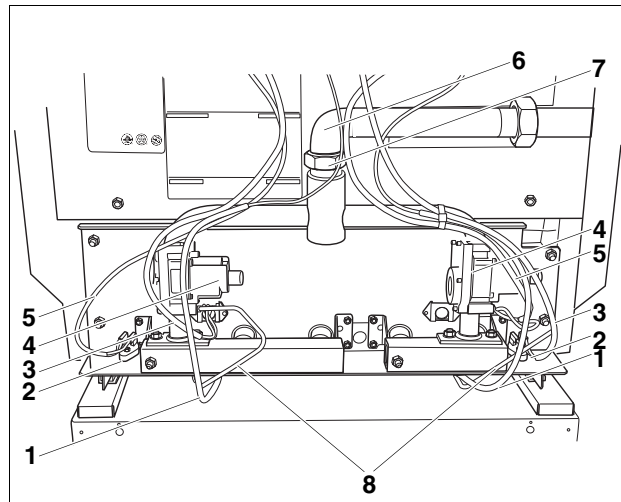

Fig. 4 Removing gas burner
28. Tighten the screws (→ Fig. 4 page 6) on the gas supply line and the burner again. Make sure that the connection pipe gasket removed in step 17 is replaced.
32. Connect pilot gas line (→ Fig. 4 page 6) to the gas valve again.
33. Connect ignition cables (→ Fig. 4 page 6) to the automatic igniters.